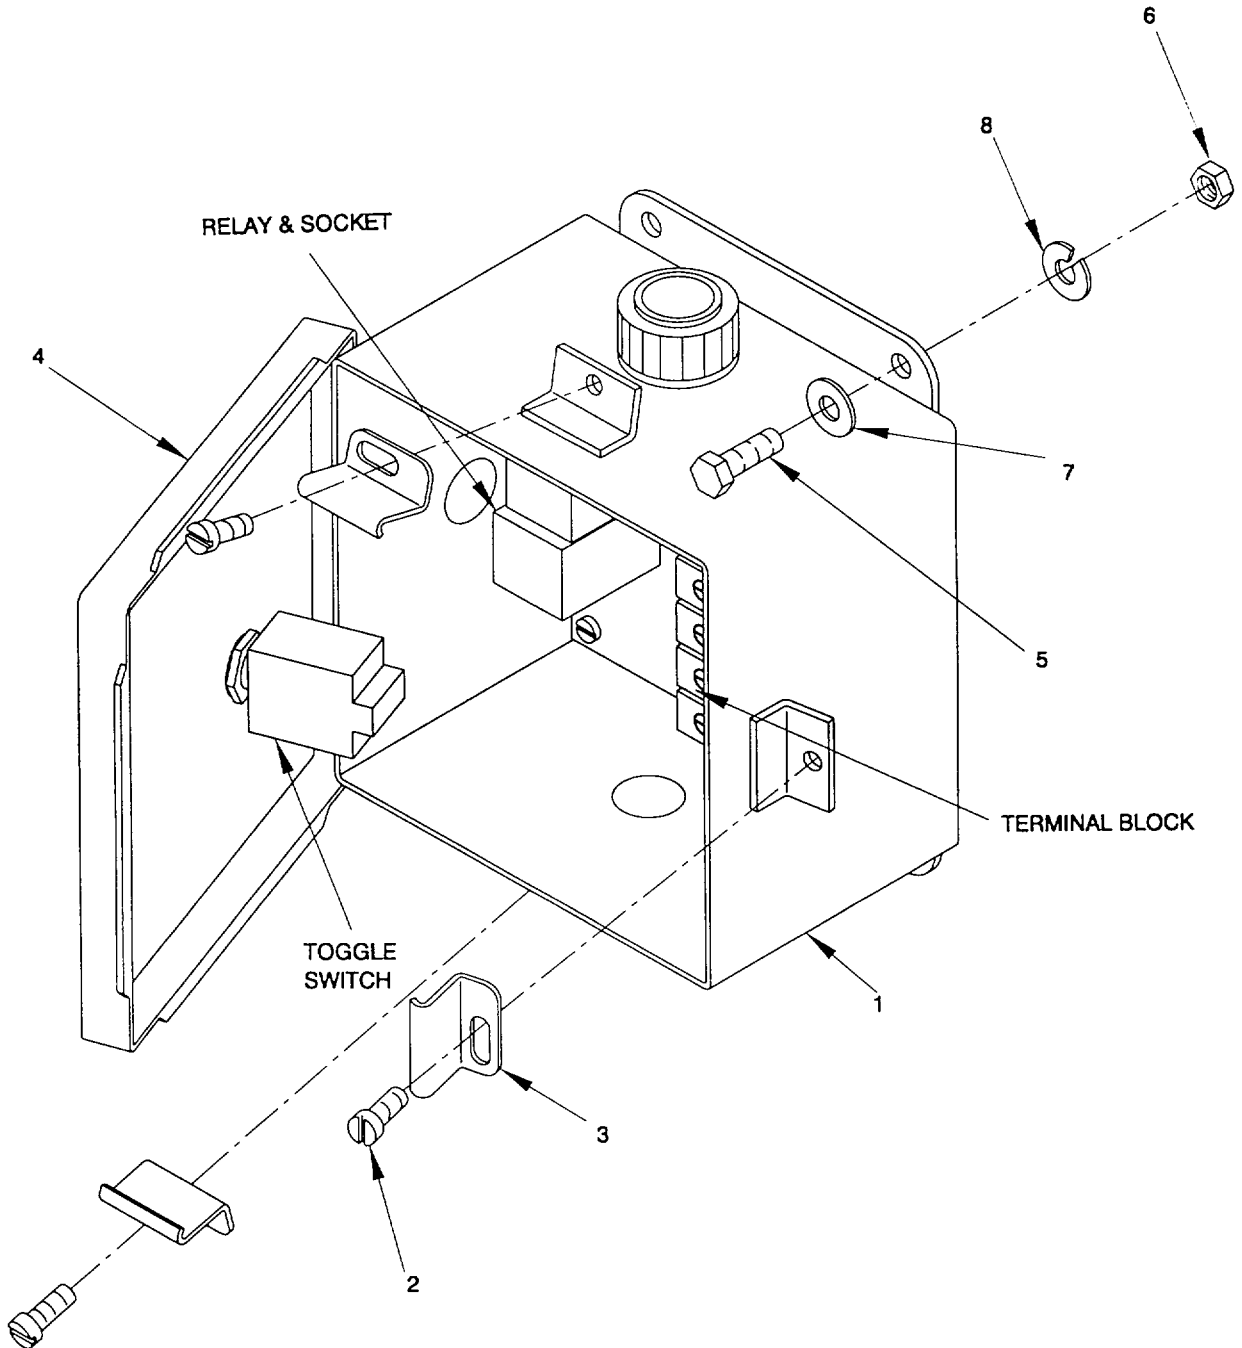

Figure 2-51. Single Bilge Pump Control Assembly, Remove/Install
a. *Remove.* (figure 2-51)
- (1) Open enclosure (1) by removing three screws (2) and three latches (3).
- (2) Open door (4) to gain access to electrical components within the enclosure (1).
- (3) Inspect all electrical components for rust, corrosion, deterioration, dirt or condensation, or loose hardware or loose, frayed, or broken electrical wiring connections. Seal boot must form a watertight cover over switch. Repair is limited to replacement of components, as necessary.
- (4) Tag all electrical connections before disconnecting electrical wiring. Refer to Appendix G, for wiring list and terminal layout.
- (5) Disconnect and remove all incoming electrical wiring connections the enclosure (1).
- (6) Clean inside of enclosure to remove condensation or loose dirt.
- (7) Remove four capscrews (5), four nuts (6) and collect four flat washers (7), four lock washers (8), and enclosure (1)
b. *Install.* (figure 2-51)
- (1) Align enclosure (1) with holes in mounting hardware.
- (2) Coat all fasteners with antiseize compound before installation of mounting hardware.
- (3) Install four capscrews (5) with four attaching flat washers (7) to the enclosure and secure with four lock washers (8) and four nuts (6).
- (4) Reconnect all tagged electrical connections within the enclosure (1). Refer to Appendix G, for wiring list and terminal layout.
- (5) Shut door (4) and install three latches (3) and three screws (2).